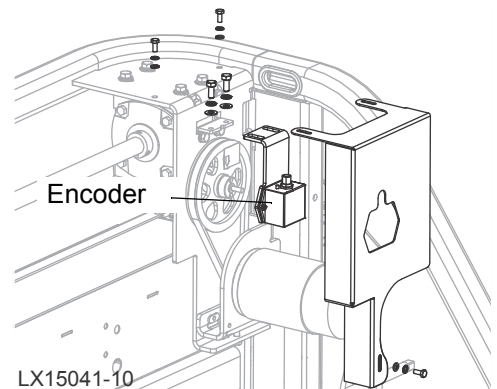

FIGURE 8
- Secure the encoder on the shaft extension. (See FIG. 8.)
- Secure the new drive belt cover with the hardware retained in step 1. (See FIG. 8.)